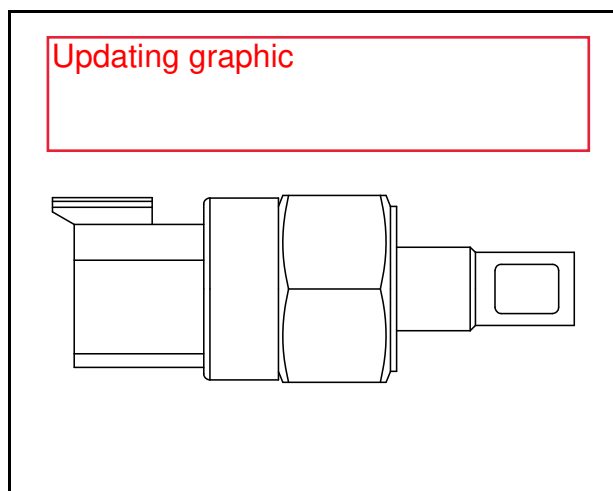

**Figure 8**
**[Figure 8]** - The pressure sensor extension harness connects to the pressure sensor harness and to the 3-section module harness.